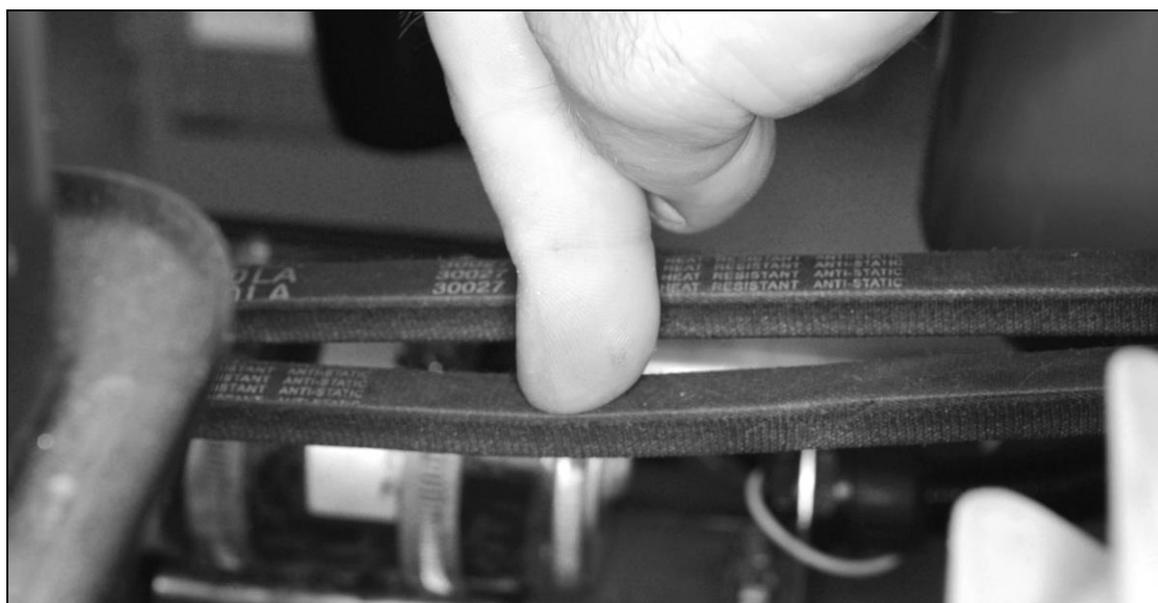

Fig. 7 – Belt Tension Check
3. Apply firm finger pressure (approx 1 kg) to the centre of the top part of each belt. Each should deflect by about 15 mm and the deflections both belts should be equal. See Fig. 7.